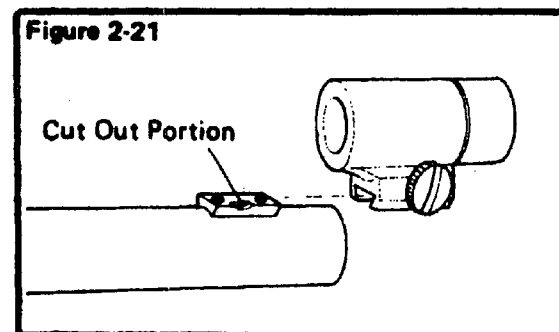

Figure 2-21
(1) Align the front sight and front sight base. (See Figure 2-21).
- (3) Tighten the screw slowly to ensure that the screw seats into the cut out portion of the sight base. (see Figure 2-21).